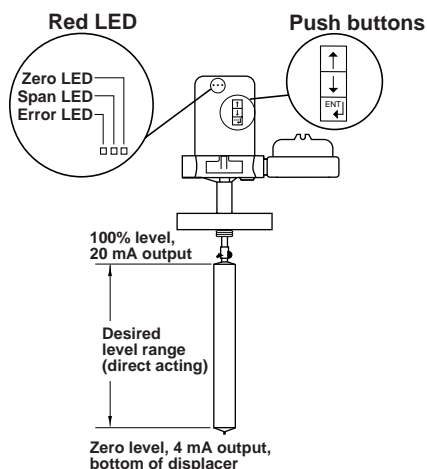

Figure 21
4. Press the ENTER key to start calibration. The ZERO LED will light. Loop will go to 22 mA. See Figure 21.